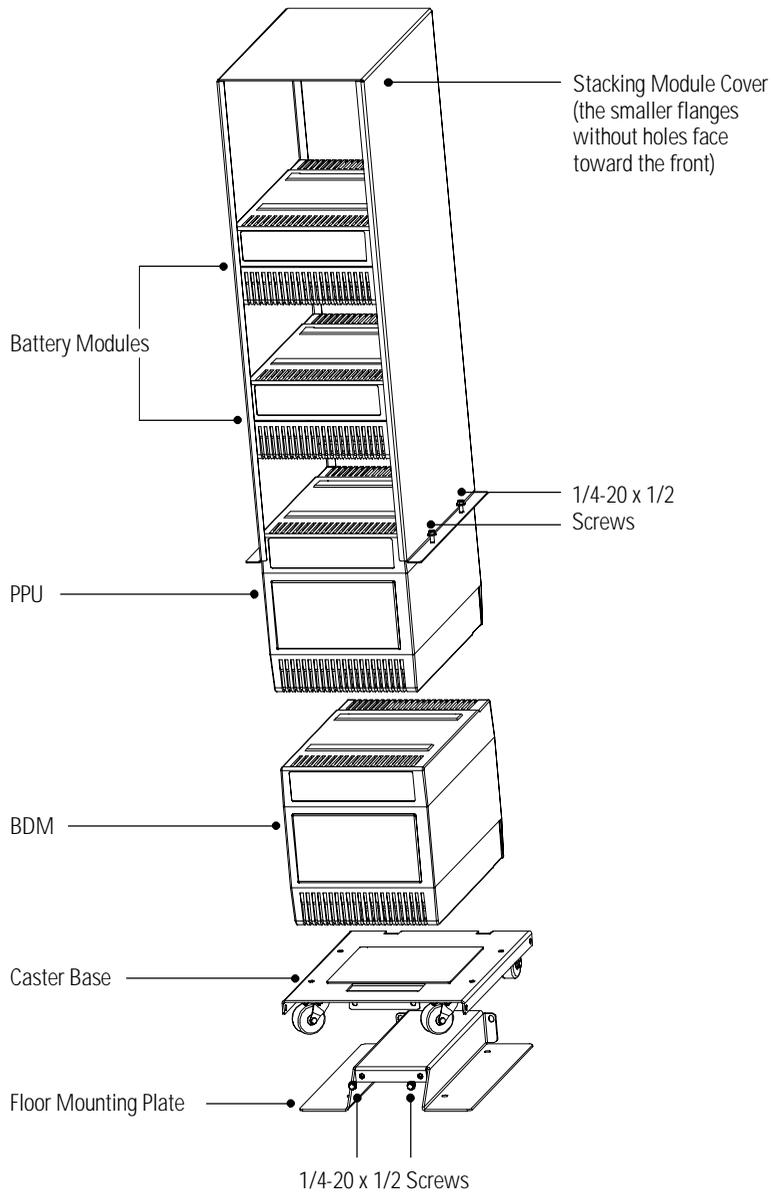

Figure 3. UPS with BDM
NOTE Do not connect more than six standard battery modules to the PPU. For extended battery times, contact your Avaya representative. Do not place more than six modules in one stack (the PPU is equal to two modules and the BDM is equal to two modules). Stack the modules as shown in Figure 3.
B Secure the caster base to the mounting plate using four of the 1/4-20 x 1/2 screws provided. See Figure 3 for part locations.
3. Stack the modules onto the caster base according to the stacking order shown in Figure 3.